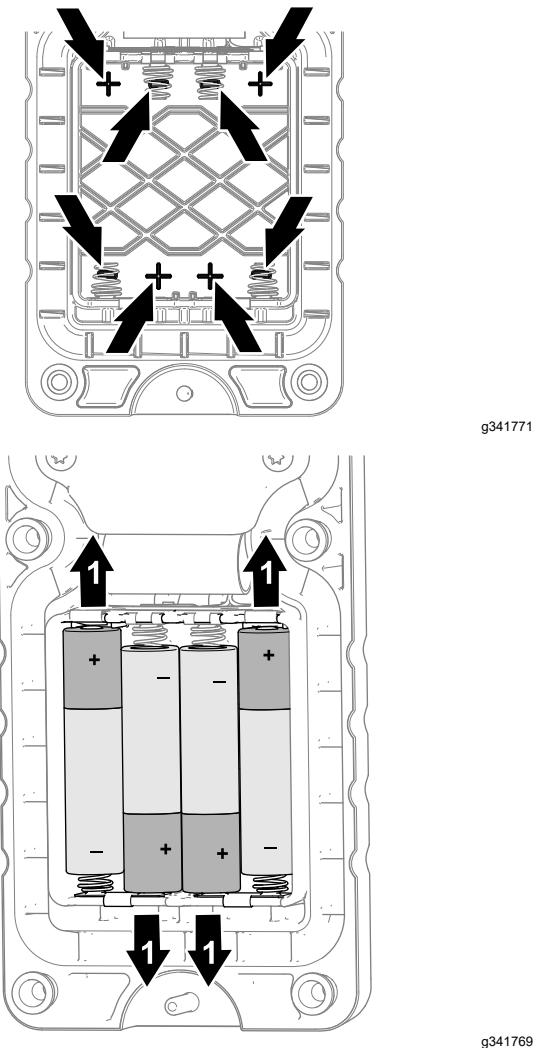

Figure 53
3. Observing battery polarity as shown in Figure 53, insert the new batteries into the terminal cradles.
Note: When installing batteries, observe proper polarity markings (Figure 53) that are embossed